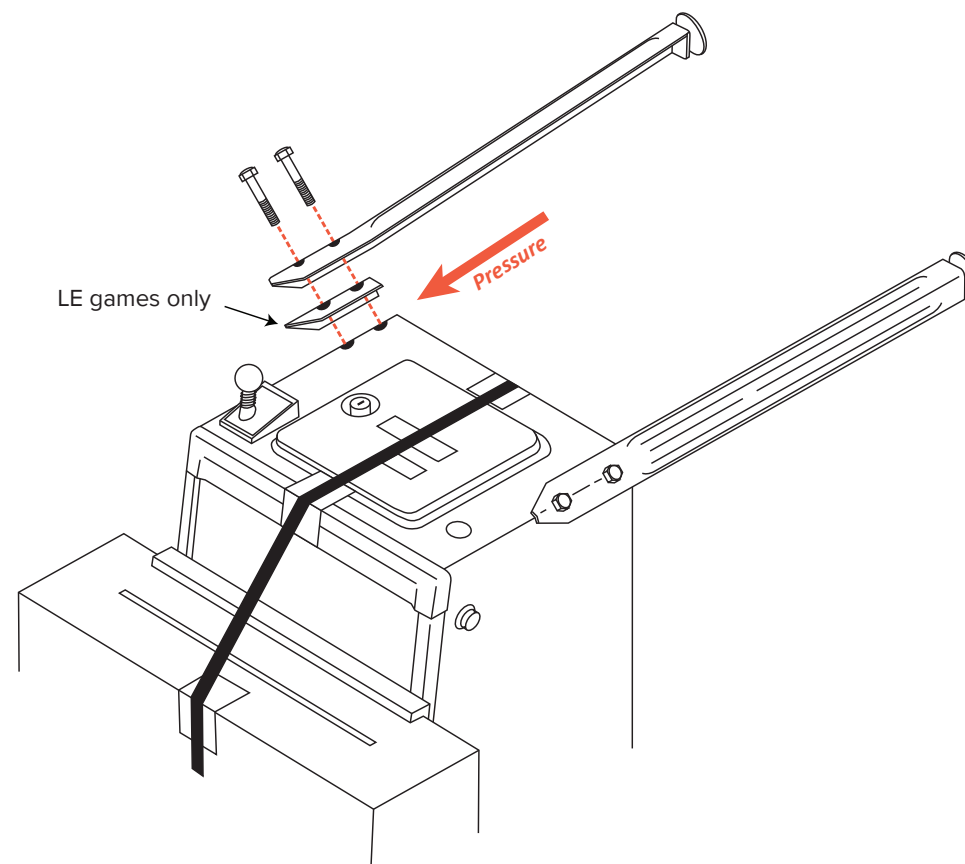

Figure 5. Installing the front legs and cabinet protectors.
5) Locate the four heavy, felt cabinet protectors (LE games only) and eight acorn-head leg bolts in the loose parts. Position a felt cabinet protector behind each leg, thread 2 leg bolts through the leg and protector, and attach both to the cabinet (see figure 5). Using a 5/8" socket and ratchet or a 5/8" wrench, tighten the bolts firmly, while maintaining pressure (in the direction of the red arrow) on each leg.